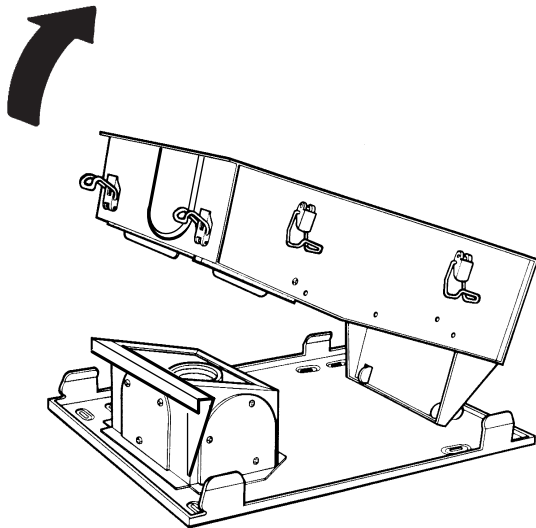

Fig. 16
5. Lift and remove the combustion box from the back plate (Fig. 16). Place the combustion box on its back.